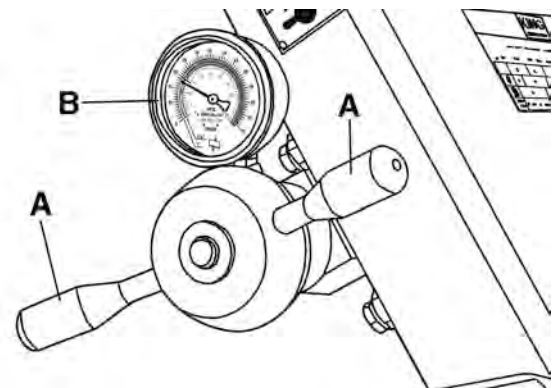

FIGURE 6
To tension the blade, turn the blade tension handles (A) Fig. 6, clockwise. A blade tension pressure gauge (B) located above the tension handles is graduated to indicate blade tension from 0-70,000 pounds per square inch. Carbon blades (similar to the one supplied with this bandsaw) should be tensioned at 20,000 PSI. For bi-metal blades, the blade should be tensioned between 25,000-29,000 PSI. Do not exceed 21,000 PSI if using a 3/4" blade and 29,000 PSI using a 1" blade. Always release blade tension at the end of each work day to prolong blade life.